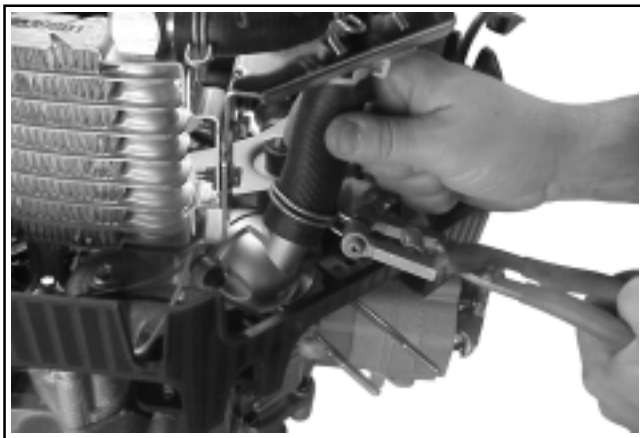

Figure 11-74. Installing Clamp on Thermostat.
5. Set the radiators and cooling system, with the hoses attached, down into its general position. Connect the hoses to the inlet of the water pump, and the outlet of the thermostat housing. Secure each connection with the respective hose clamp. The tangs must be positioned outward. See Figure 11-74.